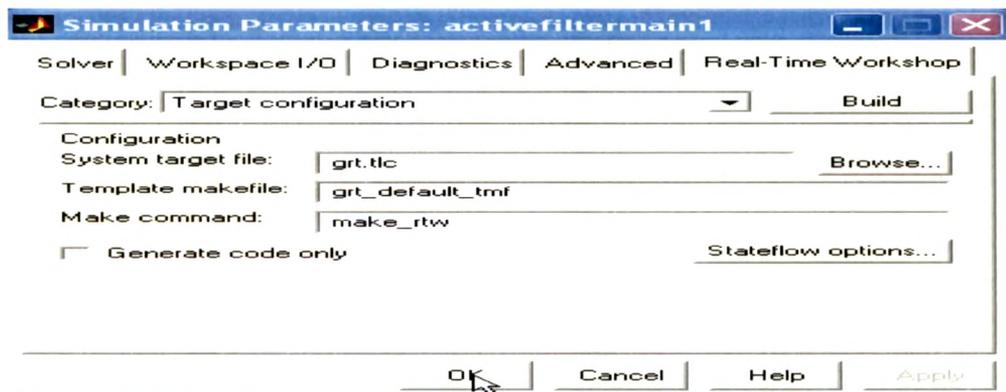

Fig 8.32 REAL TIME WORKSHOP PANE
- On target configuration selection, RTW automatically chooses the appropriate system target file, template make file and make command. (Fig. 8.32)